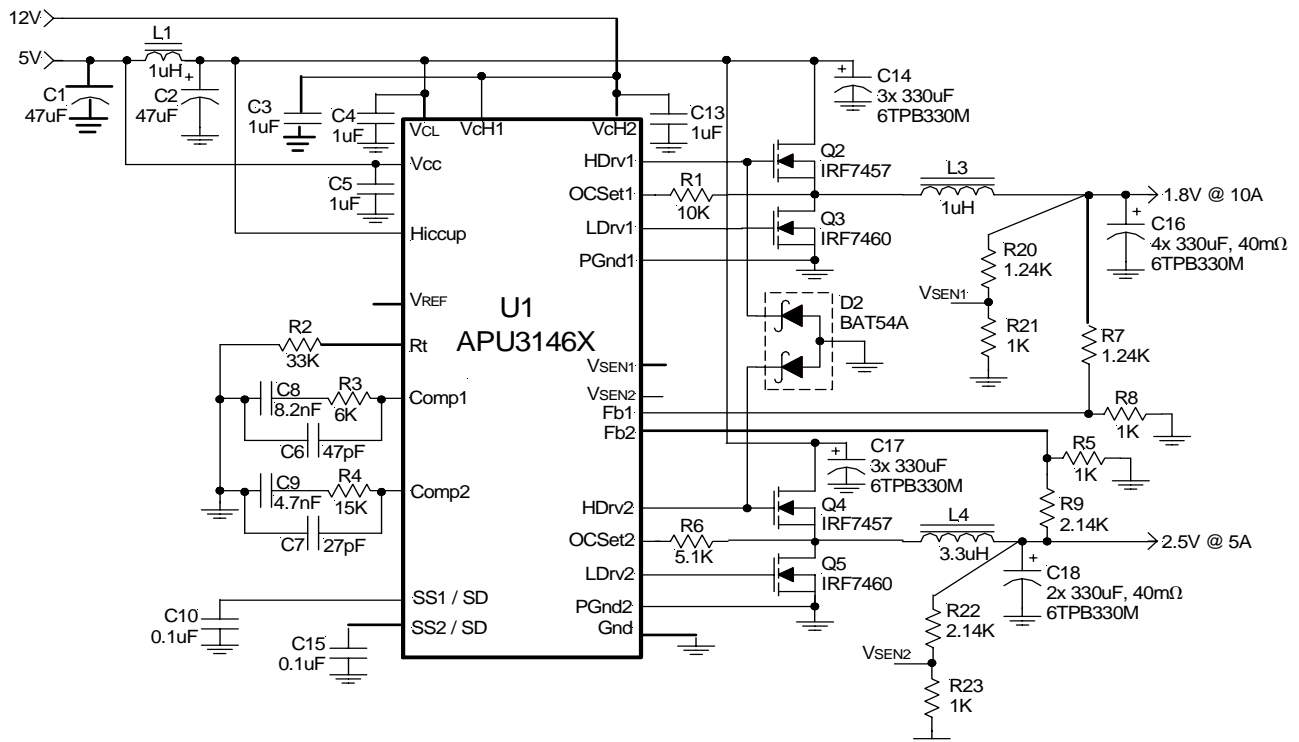

Figure 1 - Typical application of APU3146X in 2-output configuration with inductor current sensing
1) These pins should not go negative (-0.5V), this may cause instability for the gate drive circuits. To prevent this, a low forward voltage drop diode is required between these pins and ground as shown in Figure 1.